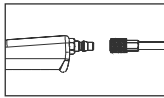

Fig.2
2. Attach a high flow quick connect fitting to the tool. (See Fig. 2)